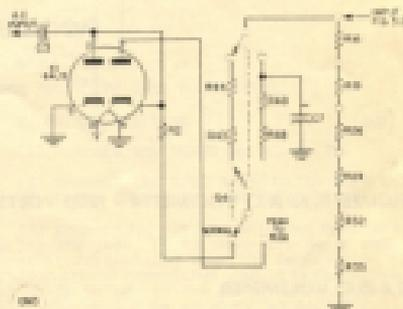

FIGURE 3.3 A.C. VOLTMETER CIRCUIT
a. Normal Position - With reference to Figure 3.3 and the switch in the normal position, the a.c. voltage to be measured is rectified by one-half of the 6AL5 twin diode, and the resultant d.c. voltage is applied to the divider network. Part of this voltage, as determined by the position of the Range Control, is fed to the input grid of one of the triodes of the bridge tube causing the bridge circuit to function. In this normal position the instrument is calibrated to read in terms of RMS voltages of a sine wave.
2. Negative contact potential is developed across the rectifier tube before any input voltage is applied. Due to the normal emission of electrons by the cathode. In either position of the switch (normal or peak-to-peak), this negative potential is applied across the input voltage divider network and would cause the meter to deflect. To compensate for this undesirable deflection, a positive voltage from the 84 supply equal to the contact potential is fed to the voltage divider network through a 50-megohm resistor. The A.C. Voltmeter, 1200 volts, with reference to Figure 3.3 (a), consists of one-half of a 6 Z 5 Diode Rectifier. This rectifier voltage is applied to R48 of the voltage divider network through a 50-megohm resistor. This rectifier voltage is applied to R48 of the voltage divider network and impressed on a grid of the bridge tube circuit.